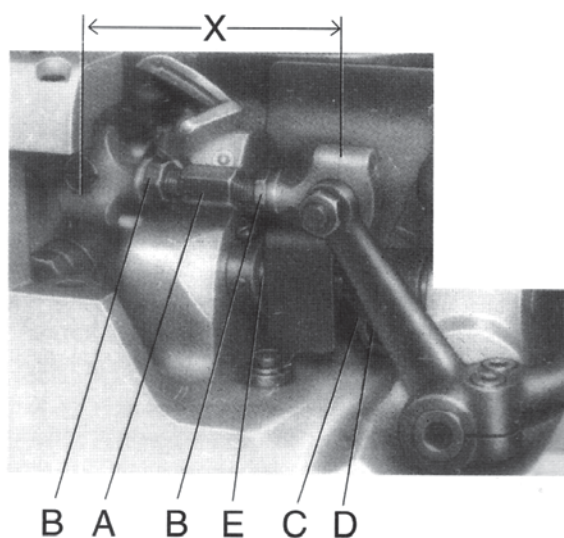
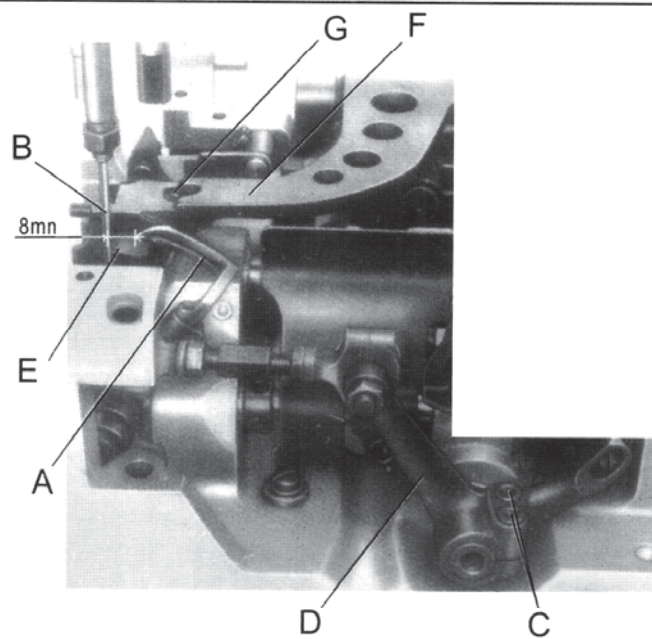
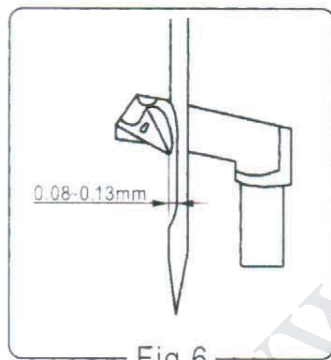
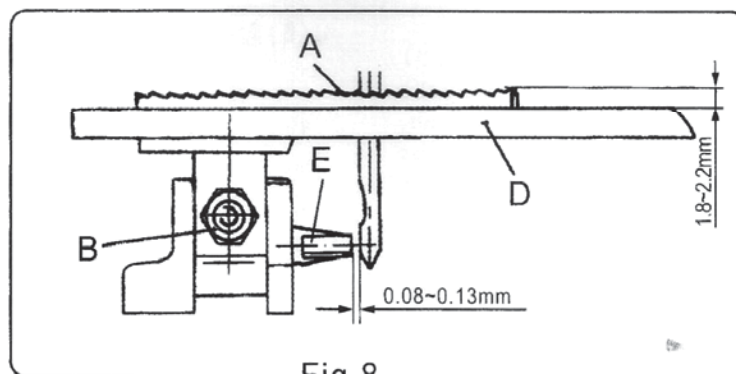

Fig.4
Fig.5
Fig.6
Fig.8
(1) Looper
- a. First set the looper connecting rod A(Fig.4), so the distance X (Fig.4) between the centre lines of the two ball joints is 69.8mm. For adjustment, loosen the two nuts B and turn connecting rod A forward or backward as required to obtain specified dimension. Retighten nuts B.
- b. Rotate the machine pulley clockwise by hand, so that the needle bar moves to the lowest point, at the same time the looper moves back to its farthest position to the right. The distance from the point of the looper A (Fig.5) to the centreline of the needle is 8mm. For adjustment, loosen two screws C in the looper drive lever, rotate looper drive lever D left or right as required to obtain specified dimension and retighten screws C.
- c. Rotate the machine pulley so that the looper A(Fig.5) moves from right to left. The looper point should pass close as possible as the back of the needle without contacting, about 0.08~0.13mm (Fig.6) clearance. For adjustment, loosen screw D(Fig.4)in the looper eccentric fork C and turn rocker shaft E on the looper rocker with the looper forward or backward as required. Retighten screw D.
(2) Needle Bar
The needle guard E(Fig.8) will protect the needle and prevent it from bending or breaking when the needle goes down. The clearance between the needle and the needle guard is 0.08mm~0.13mm(Fig.8).For adjustment, rotating pulley in the direction of operating, so that the needle guard moves against the needle. Loosen set screw G on feed dog holder (Fig.5), move the needle guard accordingly. Retighten screw G.
The height of the feed dog A(Fig.8) is determined by the quality and the thickness of the sewing materials. For closing thin material such as bags made of cloth and plastic, teeth surface should project 1.8mm above the throat plate D top surface, and for sacks about 2.2mm above the throat plate. For setting, move the feed dog to the highest position, loosen nut B and adjust feed dog by raising or lowering it. Retighten nut B.